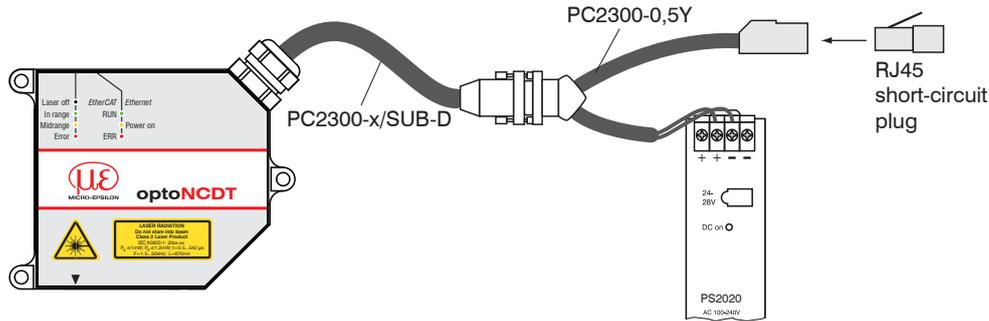

Fig. 64 Default setting with a RJ45 short-circuit plug
- Connect the RJ45 short-circuit plug on the PC2300-0,5Y cable, see Fig. 64.